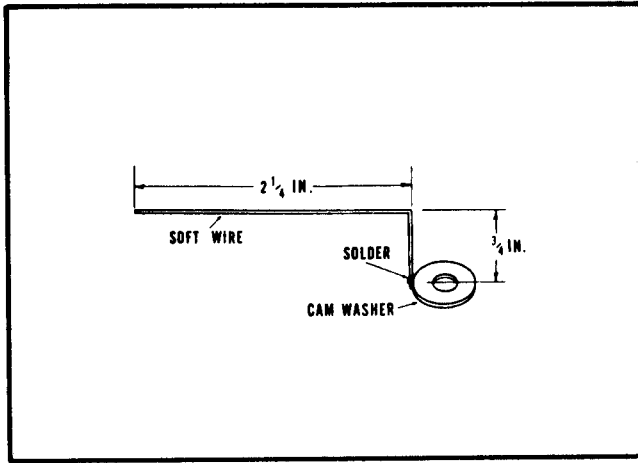

Figure 12-9A. Timing Pointer
- b. Fabricate a timing pointer as shown in figure 12-9A.